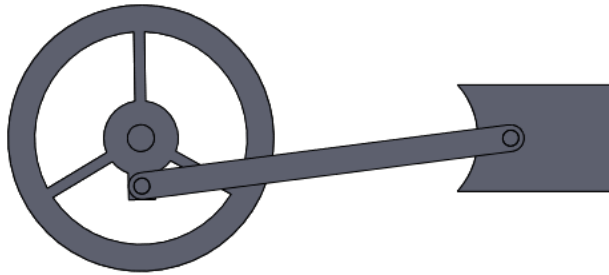
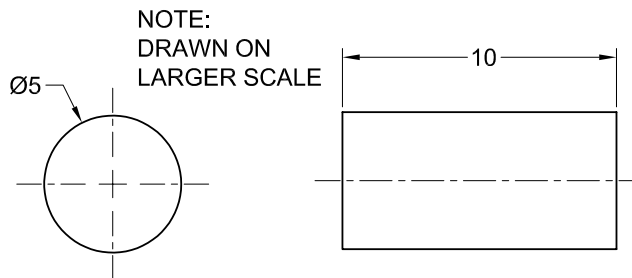

Figure 2-38 Mechanism created by assembling the parts
Figure 2-39 The front and side views of the Shaft
In this tutorial, you will convert 2D blocks into parts in the Layout environment and then assemble them to create a mechanism, as shown in Figure 2-38. Also, you will animate the mechanism by applying the rotary motor. Figures 2-39 through 2-42 show different views of the parts of the mechanism with required dimensions. **(Expected time: 45 min)**
- Draw the sketch of the front view of the Shaft by using the tools in the **Sketch CommandManager**. For dimensions of the shaft, refer to Figure 2-39. Save the sketch of the Shaft as a block file in the *c02* folder by choosing the **Save Block** button in the **Blocks** toolbar.